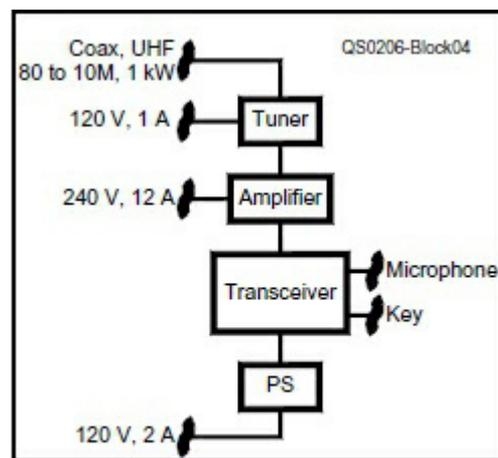

Figure 6.12 — Block diagram of a typical simple HF radio station.
rectangle with the manufacturer's name and model number and each feed line with connector type and gender, frequency range, and maximum transmit power. **Figure 6.12** shows a block diagram for a simple station. (This chapter assumes the station is for HF operation. The same planning process works for VHF+, too.)
10) Once you have completed the process for each of the rectangles, including all of the new ones that were added, you should have an accurate block diagram of your radio station. It may be prudent to review each rectangle to verify that nothing was left out. Your block diagram should look something between Figure 6.12 and **Figure 6.13**.